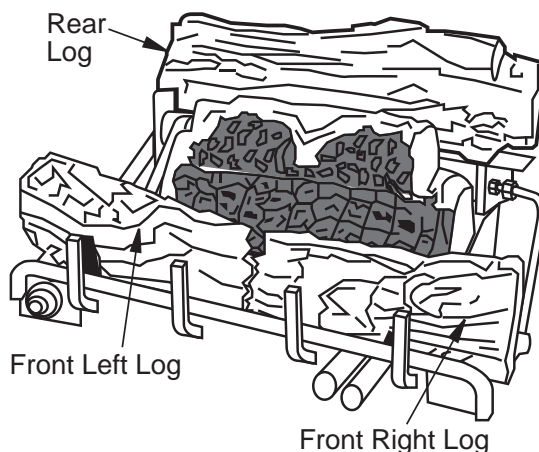

Figure 24 - Installing Logs
- Place front left and right logs and rear log as shown in **Figure 24**.